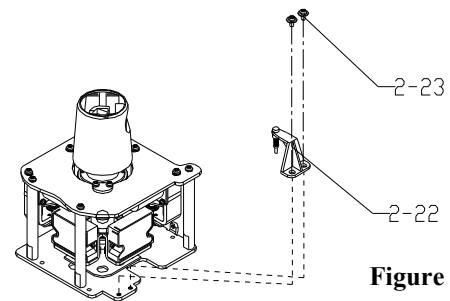

Figure 6
1. As shown in figure 6, use a cross screwdriver to unscrew the 2 crosshead plate screws M3×6(2-23#), and remove the alarm adjustment module (2-22#).